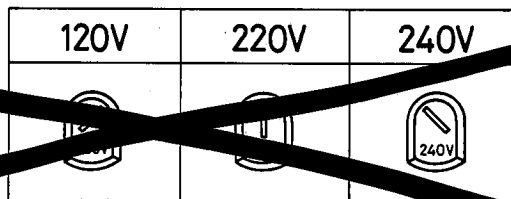

Fig. 7
1. Before operating the unit for the first time in a new area, it is essential to ensure that the setting of the VOLTAGE SELECTOR (located on the back of the unit) corresponds to the local voltage. To adjust the voltage selector, reset the VOLTAGE SELECTOR to correspond with the local voltage (Fig. 7).